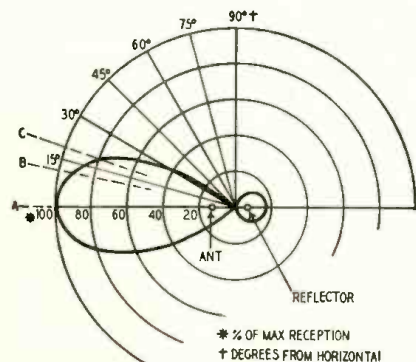
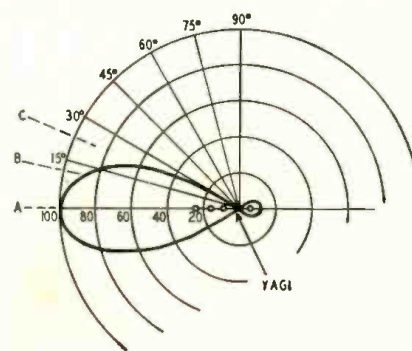

Fig. 1—Vertical-directivity pattern of a horizontal dipole with reflector. The principal lobe offers little discrimination against signals from *B* and *C*.
Fig. 2—Narrower vertical-directivity pattern obtained by adding director elements. The response to signals arriving from *C* has been reduced about 50%.
The a.g.c. circuit in the Du Mont RA-166, RA-167, and similar chassis is essentially a standard 6AU6 keyed-a.g.c. system with provision for delaying the application of the tuner a.g.c. voltage. The circuit is shown in Fig. 1.
Fig. 1—Delayed keyed-a.g.c. circuits of the late-model Du Mont RA-166, 167, 170, and 171 Telesets. The 12AU7 voltage-regulator tube stabilizes the gain of the 6AU6 a.g.c. amplifier against variations in B plus and power-line voltages.
1. Broad-band preamplifiers and output amplifiers. One example is the Spencer-Kennedy Laboratories' "distributed" amplifier, used without either channel converters or a.g.c. The number of broad-band preamplifiers connected in cascade at the antenna site depends, naturally, on the incoming-signal level, amplifier gain, and the output level required to overcome cable losses and deliver adequate signal to the next amplifier. As many as three SKL broad-band amplifiers have been cascaded at the antenna site. See Fig. 1.
Fig. 1—Block diagram of SKL (Spencer-Kennedy Laboratories) community-TV antenna system. Individual-channel antennas feed up to three cascaded broadband amplifiers through a matching network.
Fig. 2—A composite dual-antenna community TV system. Preamplifier feeds "re-amplifiers" with individual a.g.c. The input lines are shown at top of channel units; outputs at the bottom feed broadband amplifiers which supply signals to the distribution system.
Several factors must be considered. A dipole antenna with a reflector has the vertical-directivity pattern shown in Fig. 1 (looking at the antenna from the side). Single-bay antennas have a fairly broad pickup so that the reduction in strength for a signal arriving at an angle *B* or *C* is not too severe. When directors are added to such an antenna to form a Yagi the pattern elongates and becomes narrower as shown in Fig. 2. Here an upward tilt would be very helpful if signals arrive at an angle above the horizontal.